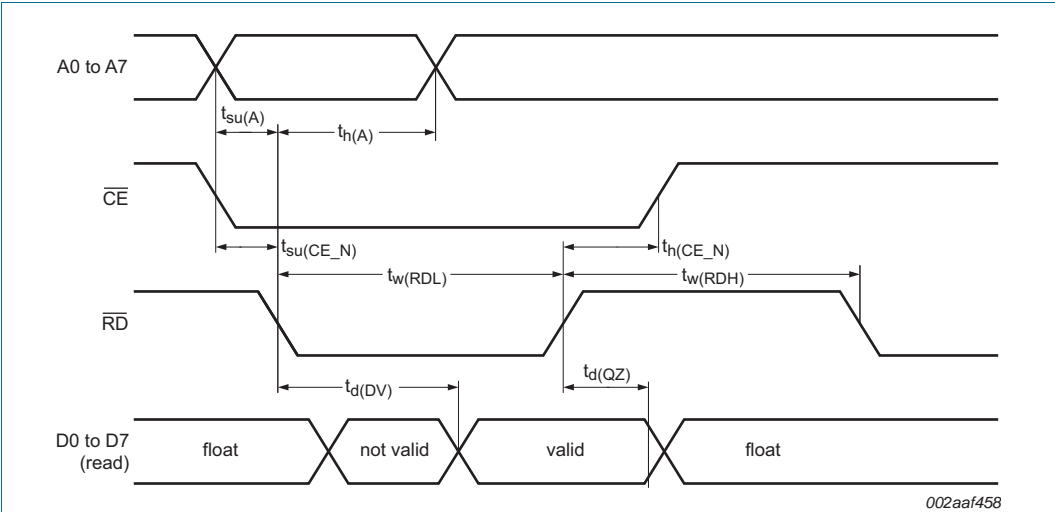

Fig 21. Bus timing (read cycle)
Bus timing (see Figure 21 and Figure 23)
- [2] All voltage measurements are referenced to ground (V_{SS}). For testing, all inputs swing between 0 V and 3.0 V with a transition time of 5 ns maximum. All time measurements are referenced at input voltages of 1.5 V and output voltages shown in Figure 21 and Figure 23.